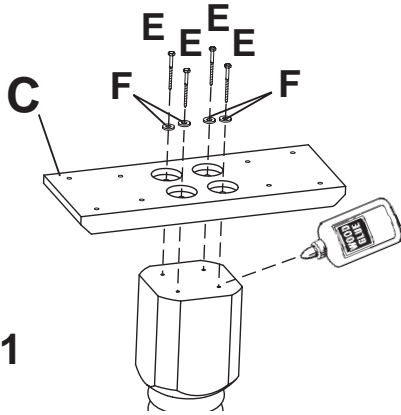

FIG. 1
- 1) Spread a thin film of glue on top of the Pedestal (B) before attaching the Top Support (C). To screw the Top Support to the Pedestal, start all four 5/16 x 3" Lag Bolts (E) and Flat Washers (F) into the Pedestal as shown in FIGURE 1.